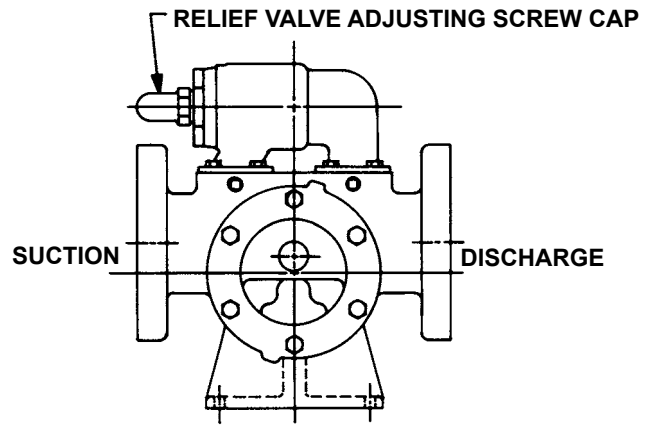

FIGURE 5
4. Relief valve adjusting screw cap must always point towards suction side of pump. If pump rotation is reversed, remove pressure relief valve and turn end for end. **Refer to Figure 5.**